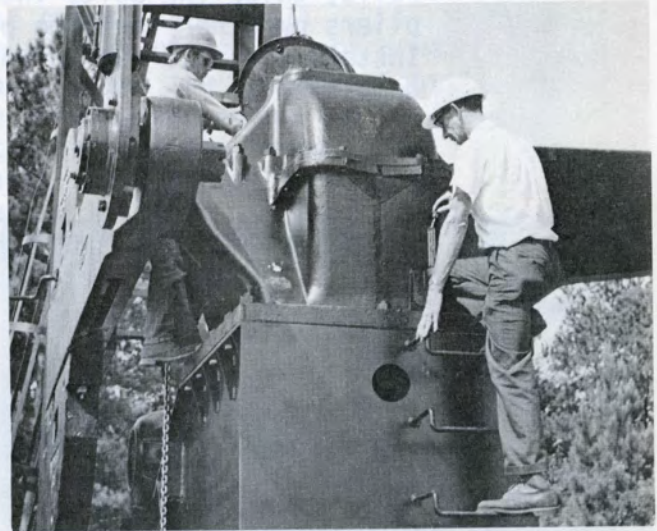

Figure 32
28. Figure 32 - Gear Reducer Lubrication